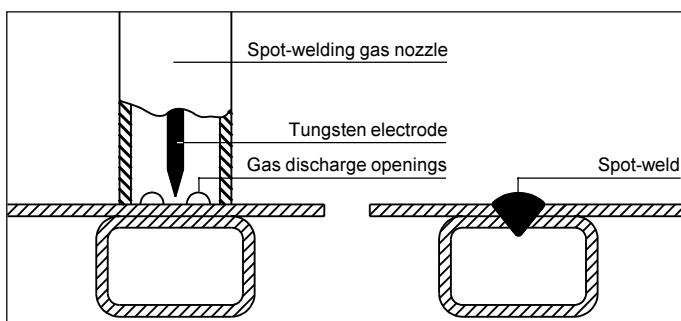

Fig. 22
- LED indicator ⑧ lights up
- Depending on the size of spot-weld required, mount the tungsten electrode approx. 2 - 3 mm back from the edge of the nozzle (Fig. 22).
- Place the torch (*i.e. the spot-welding nozzle*) on the workpiece (Fig. 22).